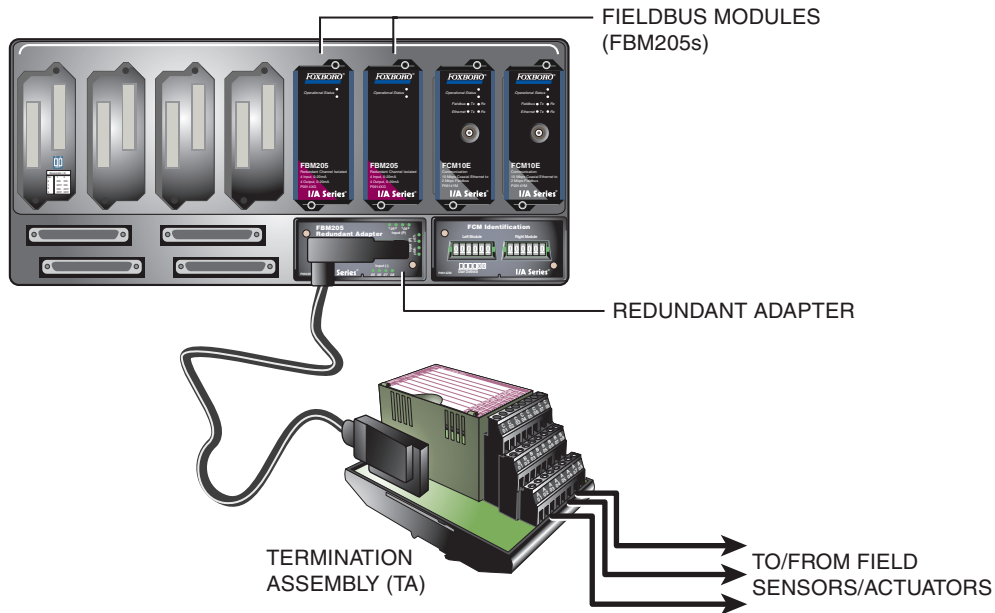

Figure 1. Redundant I/O Configuration
A redundant pair of the modules combine to provide redundancy at the Fieldbus Module (FBM) level, with field I/O wired to one common termination assembly (see Figure 1). Each module independently attempts to hold the output(s) at its specified output value(s), and each independently reports its observed value of the inputs.
adjacent baseplate termination cable connectors to provide a single termination cable connection (see Figure 1). A single termination cable connects from the redundant adapter to the associated termination assembly (TA).